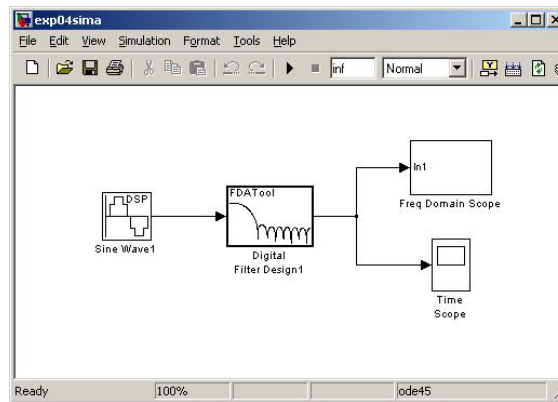

Figure 3: Simulation Model with **FDA Tool**
From now on, keep in mind that you should be simulating a system which operates at a sampling frequency of 48kHz (sampling period of $1/48000$ seconds), as dictated by the DSP hardware platform that will be utilized in the implementation part. In order to answer the questions, you can create a model using the **FDA Tool** block, by connecting an input (a sine wave generator) and outputs (time domain and frequency domain scope) to it. At this point you should be able to create your frequency domain scope. This model is shown on Figure 3.
1. With the model running, change the input frequency and draw the filter frequency response from the output values. In order to do that, you can set the running time to `inf`, as it is in Figure 3. Use 500Hz, 1KHz, 2KHz, 3KHz, 4KHz, 5KHz and 10KHz.